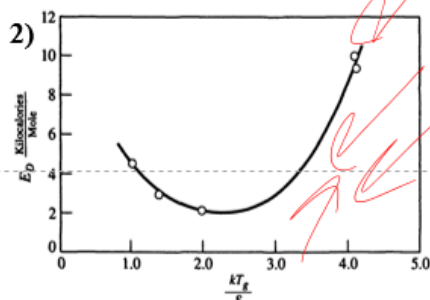
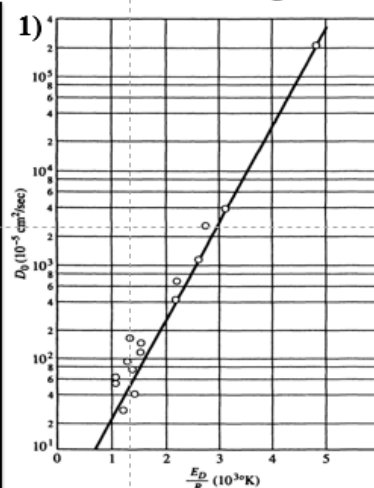

Fig 2: **Logarithm of D_0 vs. activation energy divided by gas constant**
Fig 1: **Logarithm of D_0 vs. activation energy divided by gas constant**
- Values of E_d and D_0 can be estimated for other gases and polymers by using Figs 1 and 2.
energy divided by gas constant and this is the logarithmic of D naught versus activation energy divided by the gas constant. So, all these things can be utilised. Now, in this particular figure, figure 1 the logarithmic of D naught is plotted against E_d over R and this particular plot, this gives the plot of E_d versus the function of polymers gas temperature and ϵ/k a gas molecule parameter. Now, in order to use the data of these two figures, figure 1 and figure 2, first establish the E_d value from this figure number 2 for a given polymer by using the polymers glass transition temperature and ϵ/k for the gas next to obtain the D naught value from this figure number 1.